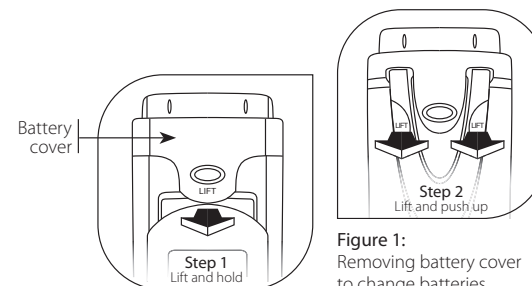

Figure 1:
2. Next, lift the pocket clip to release the back catch and slide upwards to remove the battery cover (Figure 1)